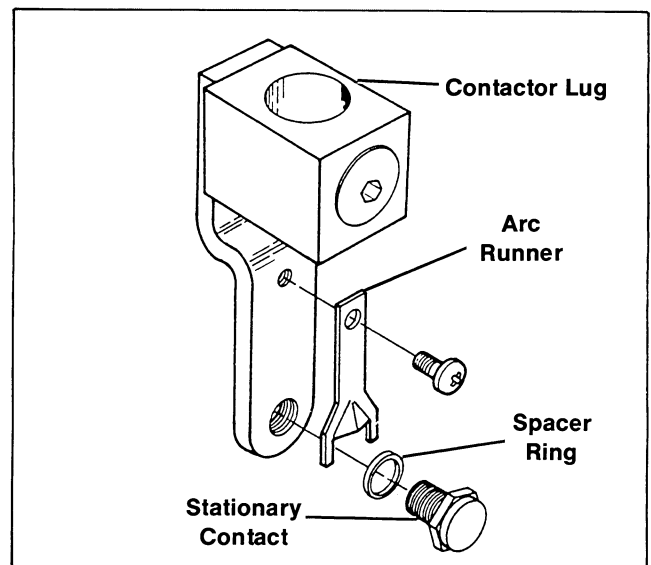

Figure 2-11. 400 Amp. Stationary Contact
- b. 400 Amp. — Remove arc runner screw and loosen stationary main contact. Slide out arc runner. See Figure 2-11.